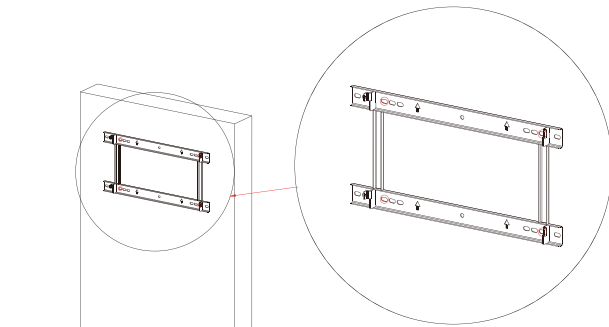

Figure 2.10 Fix the Wall Bracket
Step 5 Use a SW13 sleeve or other tools for M8 flange to lock the expansion screws and fix the wall bracket, as shown in Figure 2.10.